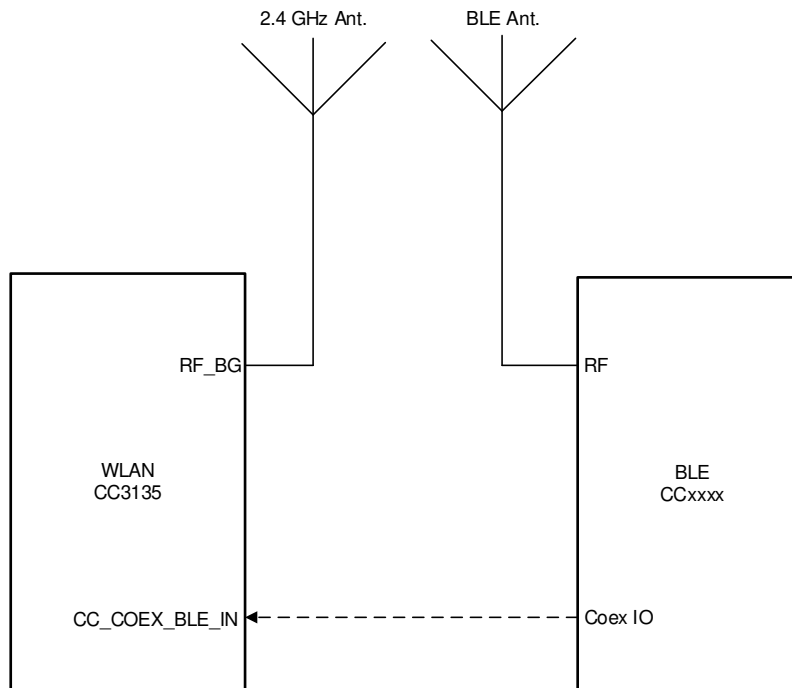

图 10-3. Dual-Antenna Coexistence Mode Block Diagram
- 2.4 GHz Wi-Fi Band (see 图 10-3)
图 10-3 shows the dual antenna implementation of a complete Bluetooth® low energy and WLAN coexistence network with the WLAN operating on either a 2.4- or a 5 GHz band. Note in this implementation no Coex switch is required and only a single GPIO from the BLE device to the CC3135 device is required.